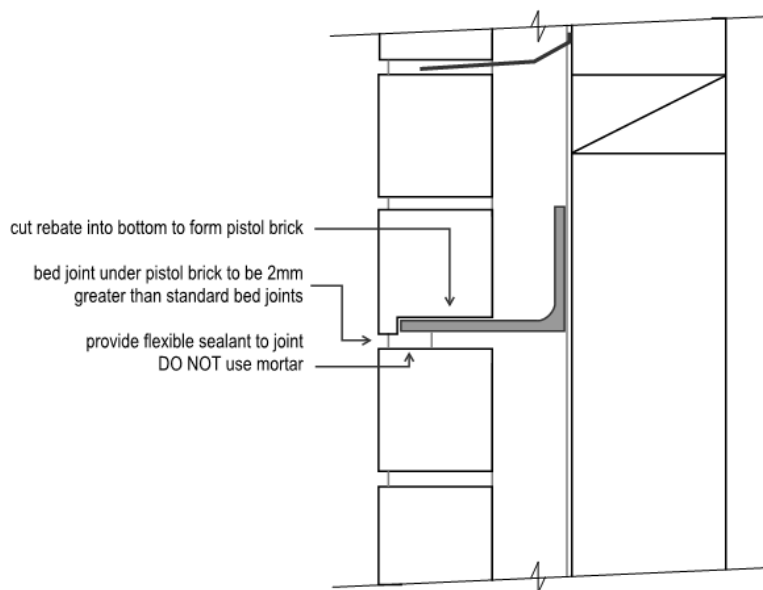

Figure 2 – Recommended hidden shelf angle detail
- Installation of a mid-wall shelf angle at 6.0m, or at the structural floor level of the third storey floor (whichever is smaller), in accordance with Figure 2.
- Above 6.0m, or at the structural floor level of the third storey floor (whichever is the lesser), a mid-wall shelf angle is to be installed in accordance with Figure 2.